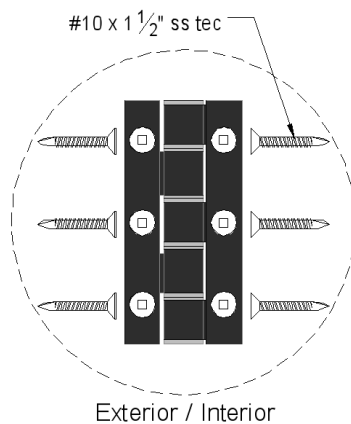

FIG 5.
- Attach interior hinges as per FIG 5.
- Attach top roller to the panel first, ensuring that the panel is level and straight with panel one. Then attach bottom roller, once both rollers have been installed attach middle hinges in between as per FIG 5.
- d) Attach the middle hinges as per FIG 5.
- c) Attach interior hinges using screws provided as per Fig 5.